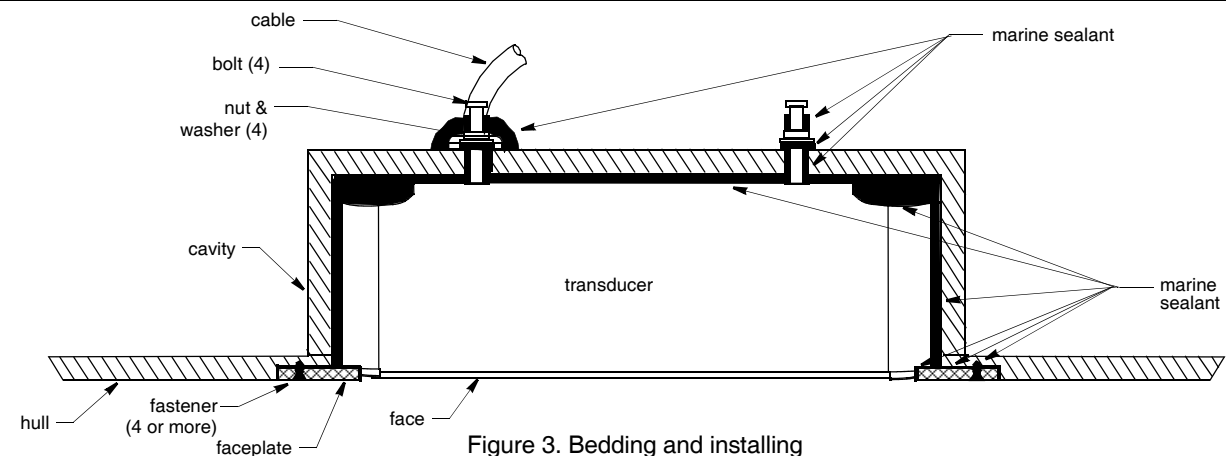

Figure 3. Bedding and installing
2. Apply marine sealant to the following surfaces to seal the hull and hold the transducer firmly in place (Figure 3).